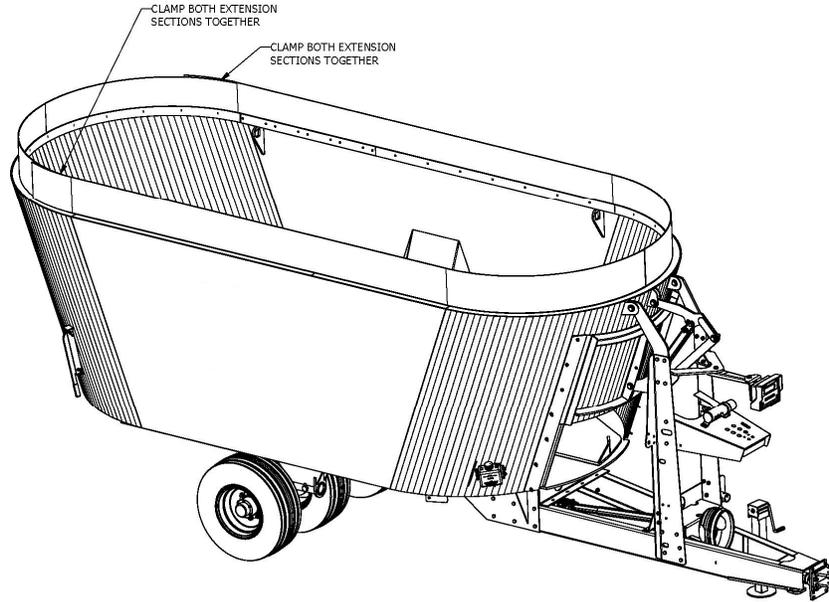

Figure 19 Securing Second Extension Section
5. Repeat steps 1-4 for the second extension section, but start at the center front of the machine. Wrap both ends so that they overlap the first extension section. Clamp both ends to the first extension section as shown in Figure 19 below.